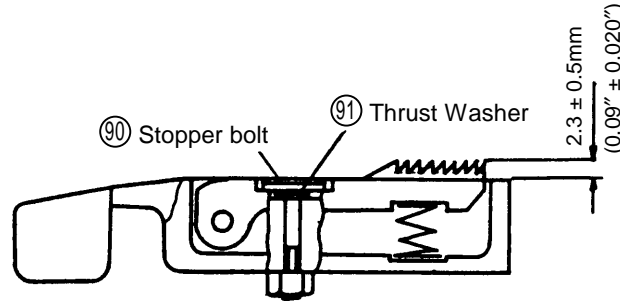

Fig. 18 Assembly of Sub-nail stopper section
- Carefully clean any plastic particles or dust from the groove on the Nail Guide (92) prior to assembly.
- When re-inserting the ϕ 3 x 30 Roll Pin (25), first temporarily tighten the Stopper Bolt (90) to hold the Main Stopper Spring (76) and Sub Stopper Spring (77) in position. This will facilitate assembly.
- With the Thrust Washers (91), perform adjustment so that the protrusion of the Sub Nail Stopper (75) is within $2.3 \text{ mm} \pm 0.5 \text{ mm}$ ($0.09'' \pm 0.020''$), as illustrated in Fig. 18.